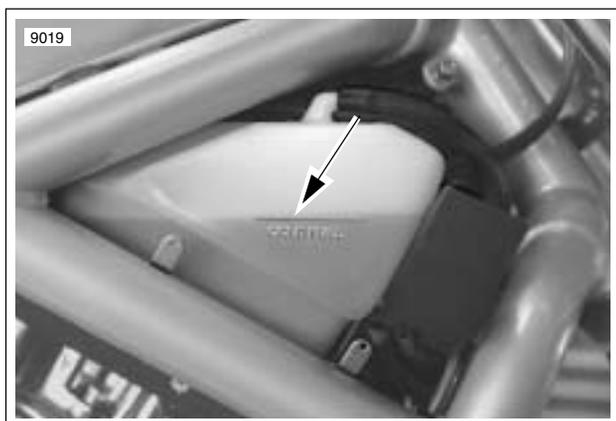

Figure 1-11. Cold Full Line On Overflow Bottle
2. See Figure 1-11. Check coolant level in overflow bottle with coolant cold and motorcycle on jiffy stand. If level is below COLD FULL line on tank, remove cap from tank and add Harley-Davidson, FULLY FORMULATED ANTI-FREEZE until fluid level reaches COLD FULL line.